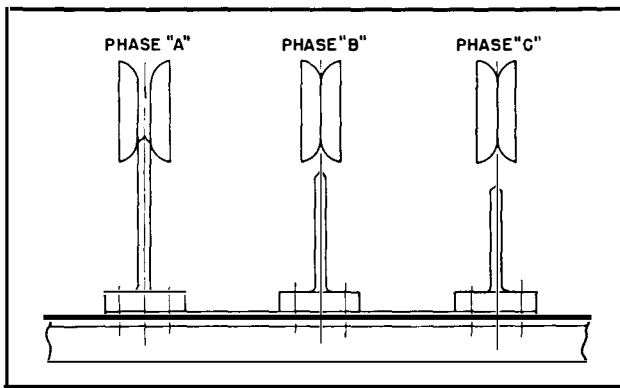
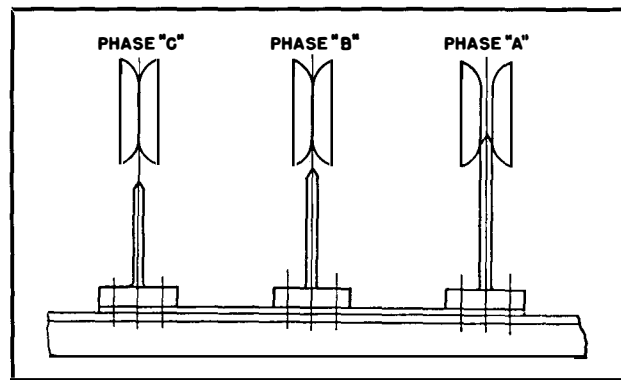
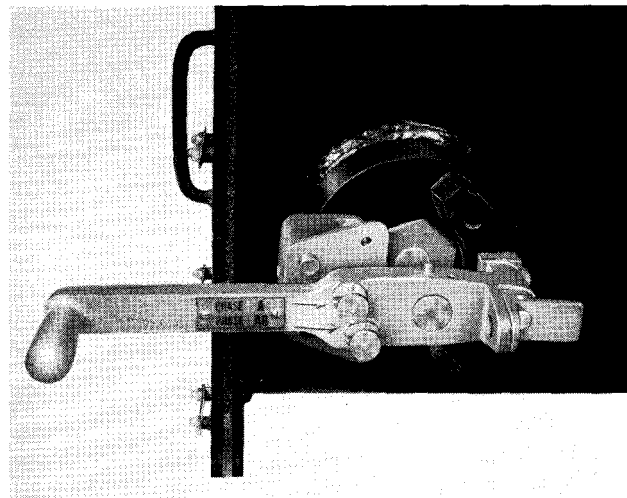

FIG. 4. Standard Phasing Sequence A-B-C,
FIG. 5. Special Phasing Sequence A-B-C,
FIG. 6. Side View of Switch in Open Position
Phasing-Out Contacts. On the three-position disconnect and grounding switch, phasing-out contacts may be provided so that one phase of the cable can be grounded at a time. Buttons are provided on the operating handle for this operation. Sequence of grounding may be either left to right, per Fig. 4, or right to left, per Fig. 5. The former is standard and will be furnished unless otherwise specified on the order. See Figs. 4 and 5.
1. When pin marked A on the handle (See Fig. 6) stops the movement, the contacts are engaged for phase A as shown in Figs. 4 and 5, Phases B and C are open-circuited. Check for circuit through phase A with test voltage, then tag.